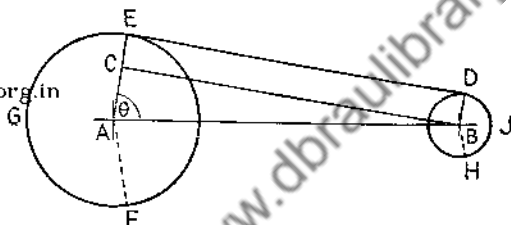

Fig. 44
(3) Two pulleys 1-ft and 3-ft diameter respectively are connected by an open belt. If the distance between the centres of the pulleys is 5 ft, calculate the length of belting (fig. 44).